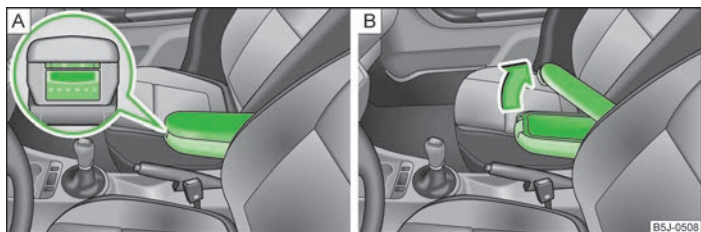

Fig. 72 Armrest: Storage compartment/open storage compartment
- Press the bottom button on the face end of the armrest » Fig. 72 - [A].
- Press the top button and fold the cover of the storage compartment upwards » Fig. 72 - [B].